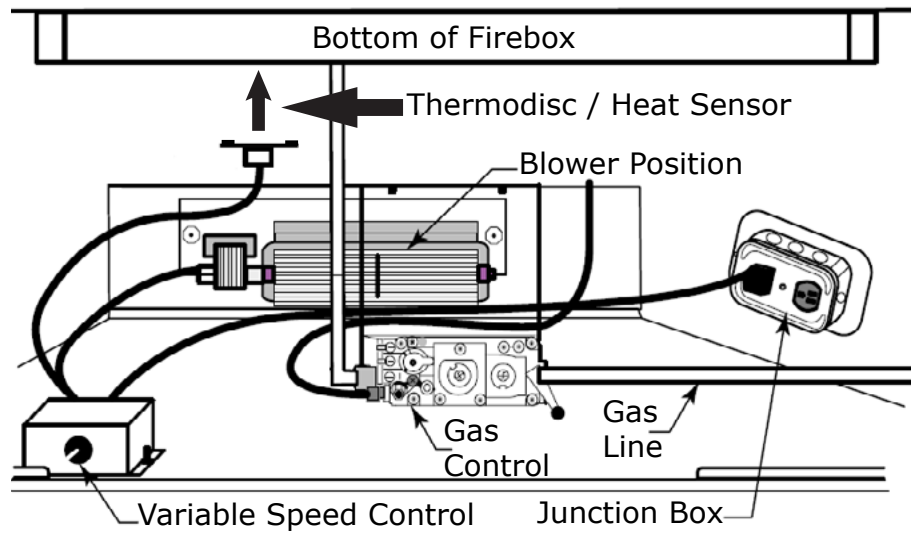

Figure: 2
Step 3: Visualize a pathway for the blower to reach the back. (Figure: 2)
Line up the bracket mounting holes with the screw studs on the back of the fireplace and fasten with #10-24 hex nuts. (Figure: 2)
Step 4: Place magnetic thermodisc to the warmest spot on the underside of the firebox (You may have to change the position of the thermodisc until you find a hot spot). (Figure: 2)
Fasten speed control box with #10-24 hex nuts. Turn the dial to the left and it will click off, turn right to reduce speed. (Figure: 2)
Insert 3-Prong Plug into the Junction Box. The Junction Box which is the power supply may be on the right or left side. (Figures: 2&7)